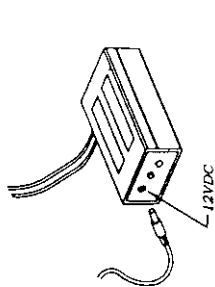

Figure 4-1
- PLUG the connector into the receiver at receptacle marked 12VDC. (Figure 4-1)